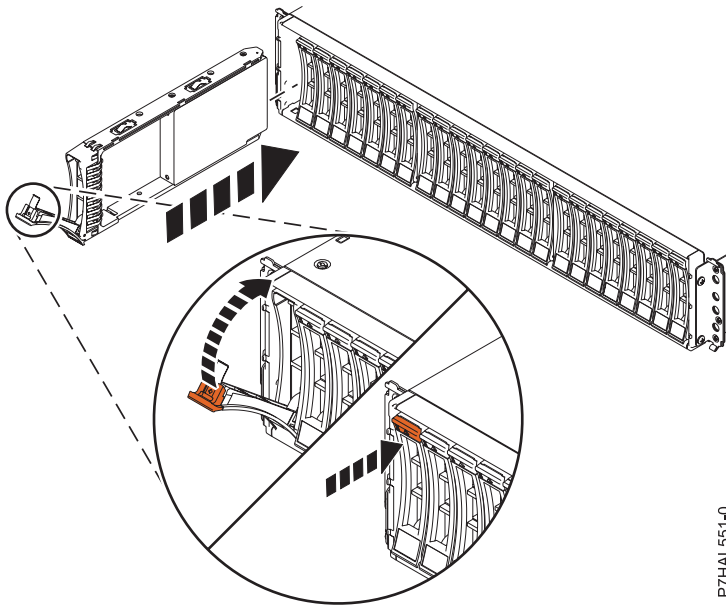

Figure 17. Installing the disk drive in the 5887 disk drive enclosure
1. With the handle in the unlocked position, as shown in Figure 17 on page 30, support the bottom of the drive as you align it with the guide rails in the expansion unit.